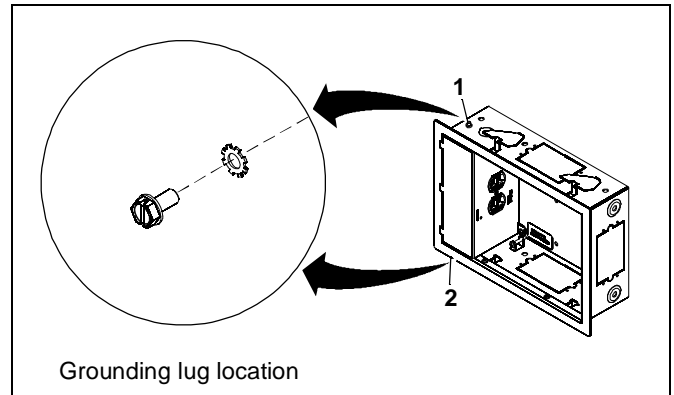

**Figure 6**
- Secure PAC521P to studs. (See Figure 6)
- Install PAC521P with two to four M7 x 40mm Allen head connector screws (E) into pilot holes using the M4 Allen head drill bit (F).
- Install PAC521P with two to four 1/4" x 2" Phillips flat head self-drilling screws (D) into pilot holes.